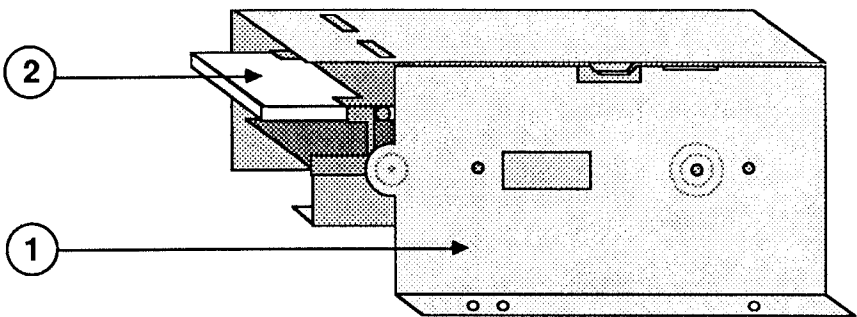

FIGURE 6
- IPL.13 Internal 800K Drive, Shipping Fixture (Figure 6)
(Figure 6)**